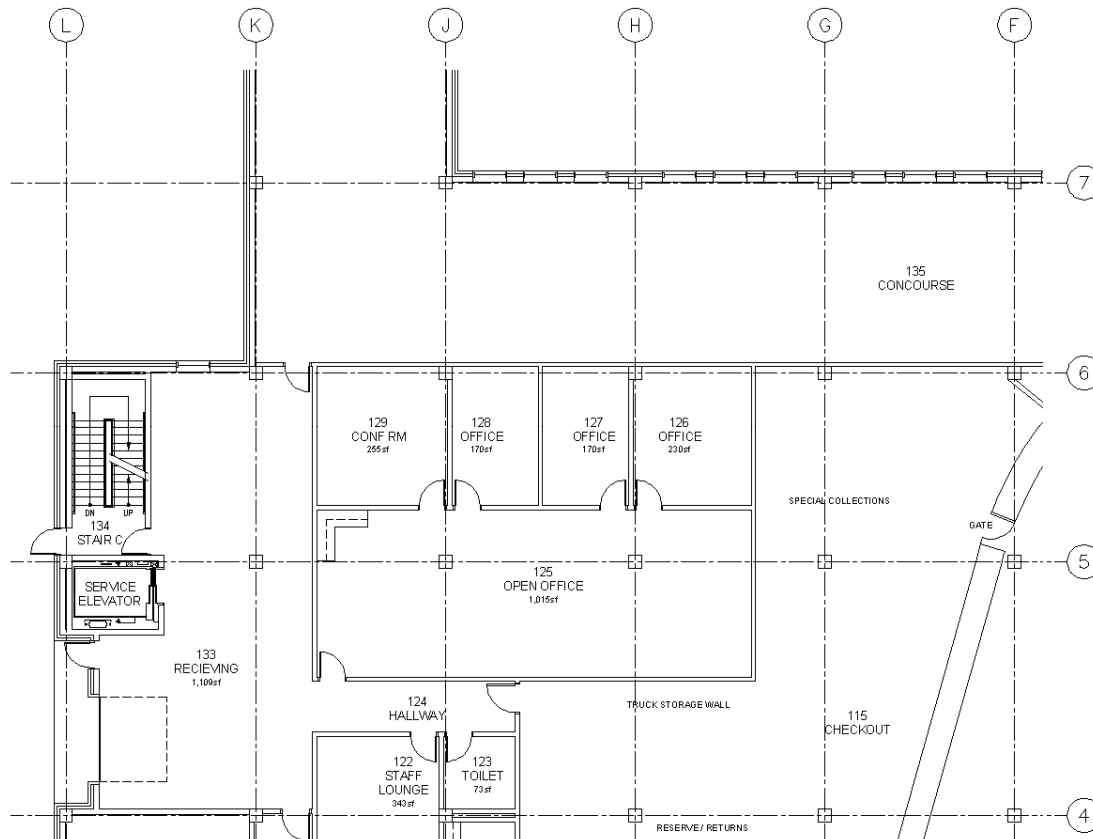

FIGURE 4-4.10 Adding room information
24. Per the previous instruction: create a *Polyline* and add the room information (as *Mtext* + *Field*) for the remaining rooms, as shown in Figures 4-4.10 through 4-4.13; you may ignore the areas not labeled.